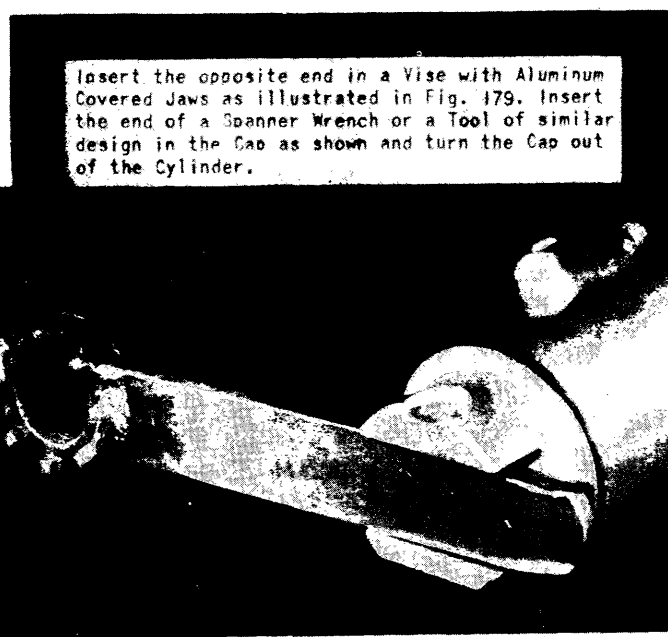

Figure 174 - Removing Cap from Retracting Strut
(4) Place the handle of the hand pump spanner wrench or some similar tool in the cap (figure 174) and turn the cap out of the cylinder.
(8) Extend the piston rod beyond the piston enough to insert the piston rod in a wooden block clamp (figure 177) with the cap pin in a vertical position. Punch the pin from the cap with a hammer and punch (figure 177) and by using a tool such as illustrated in figure 174 turn the cap from the piston rod. Remove the piston rod from the vise and wooden block clamp.
(5) If the cylinder cap pins and cups have been removed, wet the cups with hydraulic oil and insert them into the nut holes. Exercise extreme care in this operation so that the edges of the cups are not cut or scored by the threads in the nut holes. When the cups are properly seated, replace the pins in the nuts and screw the nuts into their respective openings. Lock-wire the nuts and the cylinder end is ready for installation on the piston rod.
(6) Do not push the piston rod all the way into the cylinder and insert the end in a wooden block clamp. Secure the clamp in a vise. Take the cylinder cap in one hand and drop the spring into the cap with the collar up. Line one of the slots on the spring up with the pin hole in the cap and install the snap ring. Screw the cap onto the piston rod and line up the pin holes on both assemblies. Insert the pin and tap it into place with a light hammer. Stake both ends of the pin.
(7) Release the piston rod from the wooden block clamp and wet the packing cups on the cap and piston with hydraulic oil, Specification No. 3586. Insert the piston assembly into the cylinder and turn the cylinder and piston up in a vertical position resting on the cap. This will keep the pawl in the proper location while the locks are inserted into the square broached holes in the piston. Insert the upper row of locking segments first and allow the cylinder to move down over this row of locks to retain them in place while the bottom locks are inserted in the broached holes. Carefully guide the piston over the lower row of locks. Start the cap into the cylinder and turn it up by hand as far as possible. If there was a shim on the cap in the original installation be sure that it is replaced. Be sure that the piston protrudes through the bearing at the opposite end of the cylinder.
(8) Place the cylinder in a wooden block clamp and secure the clamp in a vise. Turn the cap up tight with the handle of a spanner wrench or similar tool. (See figure 174.) Do not tighten excessively.